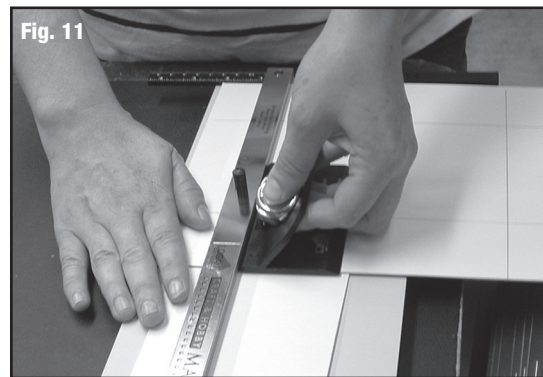

Fig. 11
3. Hold down guide bar with your right hand. Place thumb of left hand on thumb divot on blade holder. (Fig. 11)